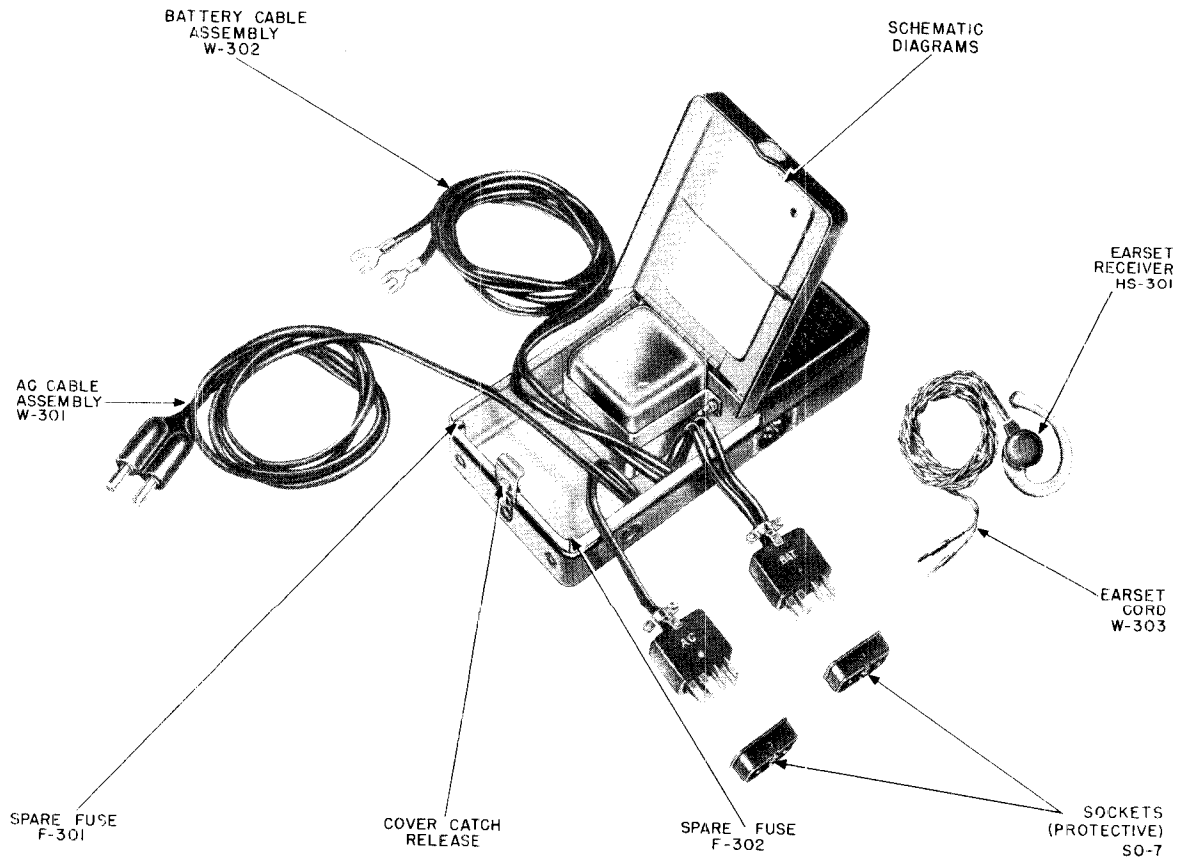

Figure 2. Filler-Accessory Unit RA-6 opened, showing accessories.
(4) Provides storage space for accessories and power cables. See Figure 2.